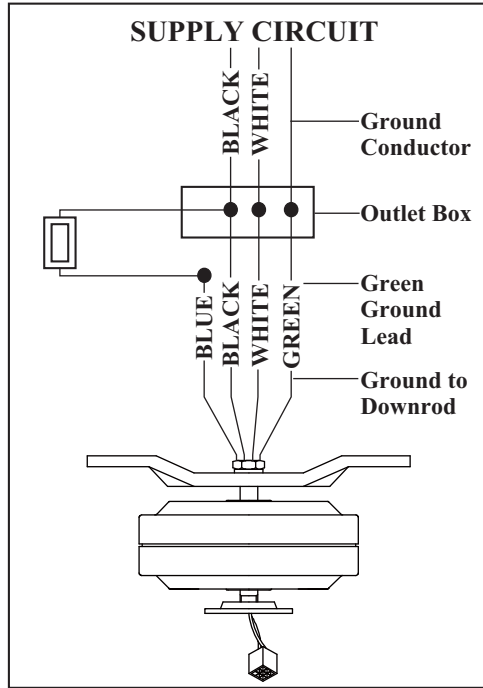

Figure 7
6. Figures 7 and 8 illustrate the wiring connections for optional wall control (available at your Hampton Bay Retailer, the wire color out of wall control may vary, see wall control's installation manual for correct wire connections.)